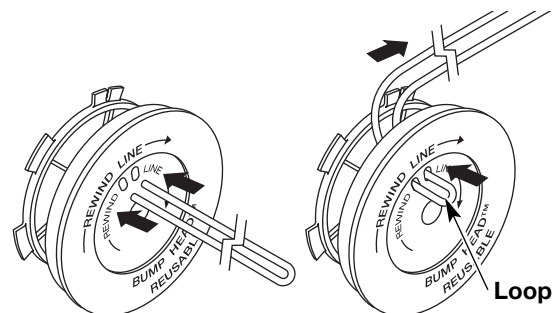

Fig. 17
6. Take approximately 16 feet (5 m) of new trimming line, loop it into two equal lengths. Insert each end of the line through one of the two holes in the inner reel (Fig. 17). Pull the line through the inner reel so that the loop is as small as possible.